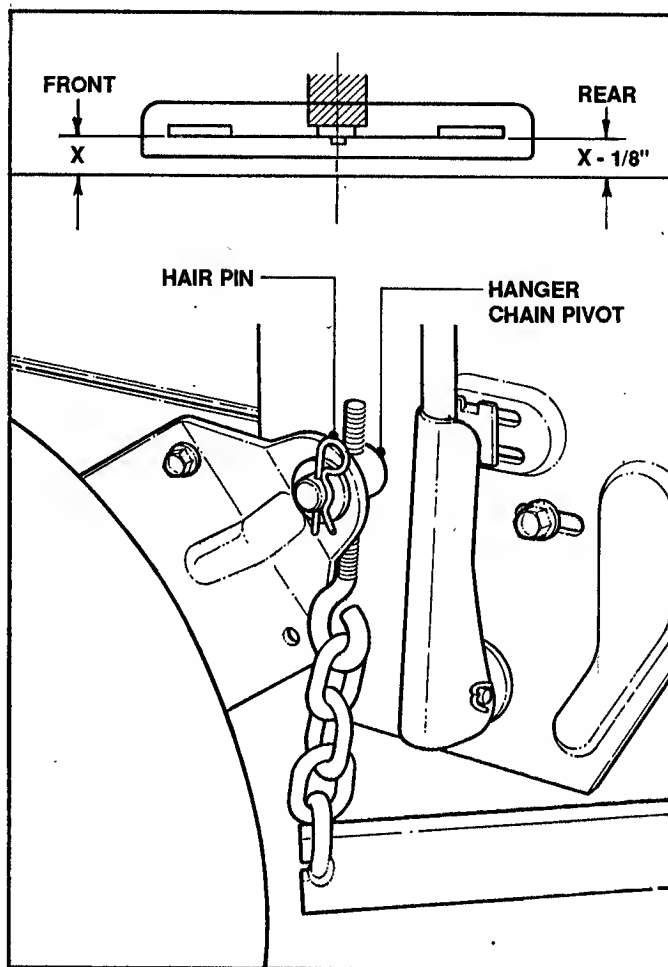

FIGURE 4.11
- (k) Readjust rear hanger chains to maintain level. Reinstall rear hanger chains. Refer to Figure 4.11.
- (b) Turn each hanger pivot the same number of rotations on the eye-bolt to raise or lower the rear of the deck. See Figure 4.11.